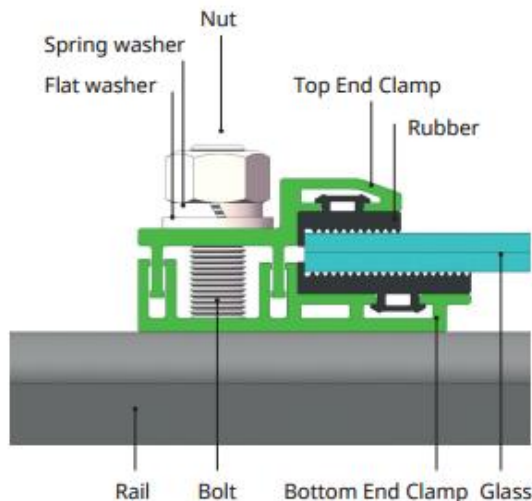
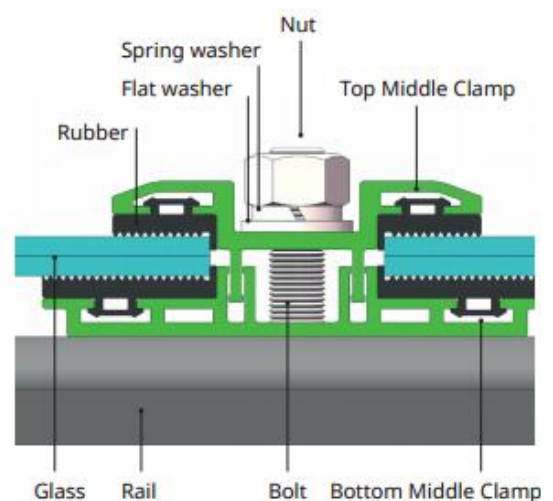

Figure 11 Fasten the Fringe modules
Figure 12 Fasten the Middle modules
**6.3.2.2** Each module is recommended to be fixed with 4 or 6 clamps, 2 or 3 clamps on each side of the module. According to local Environment (depending on wind power and snow loads), additional clamps may be required to ensure modules and PV system to withstand anticipated mechanical pressure. We recommends using the following clamps (as shown in Figure 11, Figure 12), or approved by reputable solar installer or systems integrator.